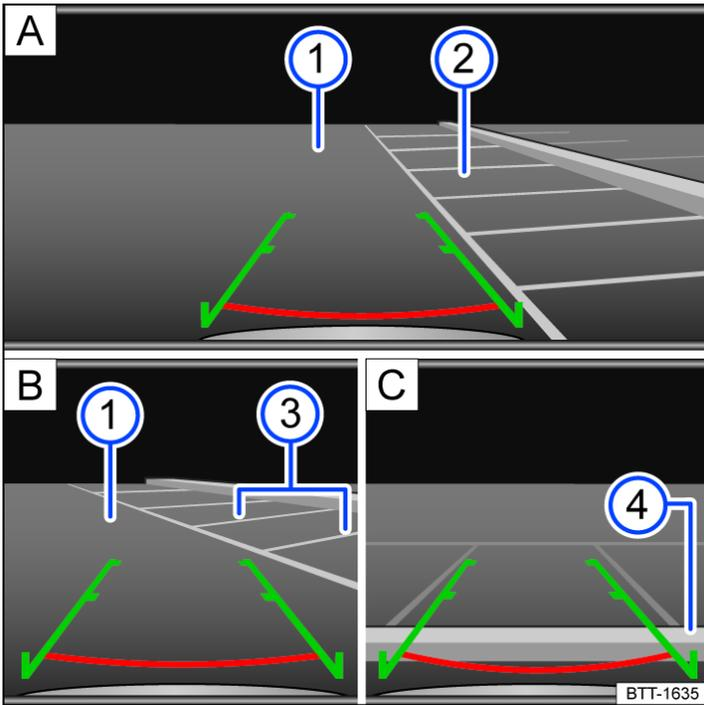

Fig. 1 Infotainment system: parking using the rear view camera system.
1. Position the vehicle in front of the parking space → Fig. 1 **A** 2.